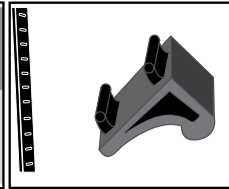

Figure 12.2
2. Remove the support clips (Figure 12.2).